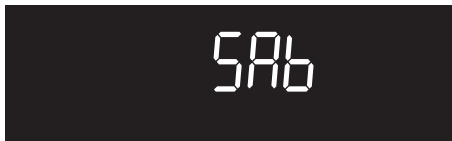

Figure 19: Oven set for Sabbath baking
5. Press and hold the **Bake Time** key and **Set Clock** key simultaneously for about 3 seconds. **SAb** will appear in the display indicating the oven is properly set for the Sabbath feature (Figure 19).